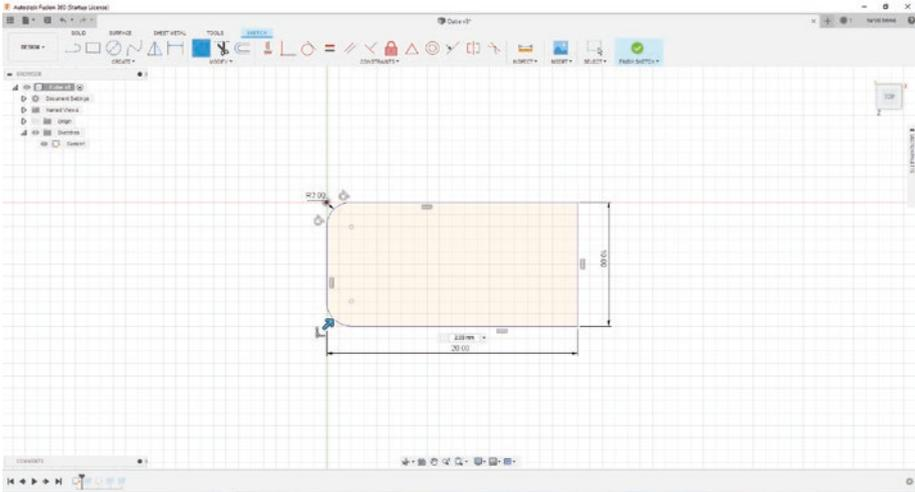

Figure 3-76. Select left-side outlines
- 32. Click the top horizontal line, then the left vertical line, and finally the bottom horizontal line. See Figure 3-76.